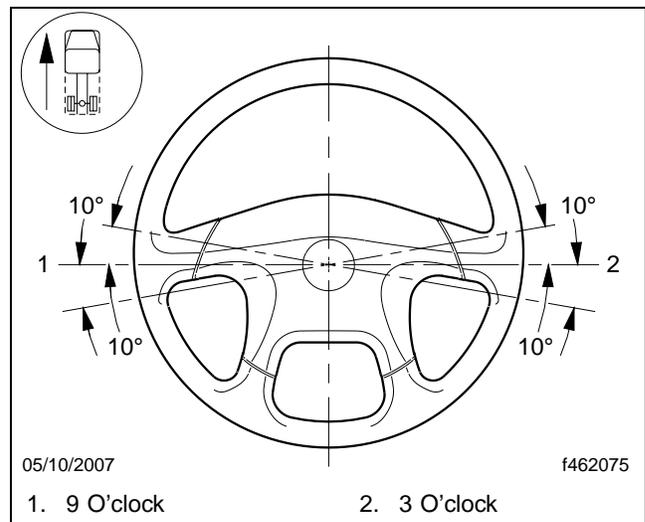

Fig. 5, Steering Wheel Centered
22. Make sure that the steering wheel is within 10 degrees of center as shown in **Fig. 5**. If it is not, remove and center the steering wheel.